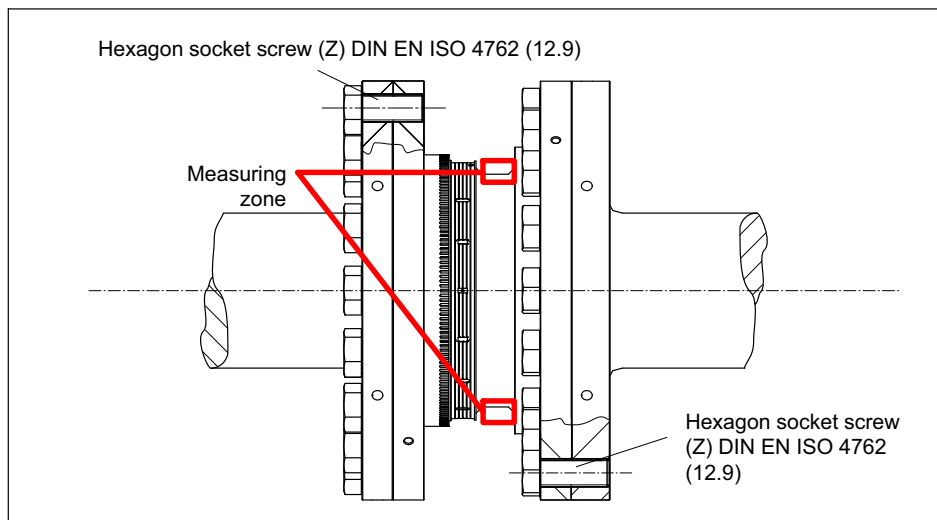

Fig. 5.5 Bolted rotor connection
Make sure during installation that you do not damage the measuring zone marked in Fig. 5.5 by using it to support tools or knocking tools against it when tightening screws, for example. This can damage the transducer and produce measurement errors, or even destroy the transducer.
2. For connection of the flange, (see Fig. 5.5) use DIN EN ISO 4762 property class 12.9 hexagon socket screws of a suitable length (dependent on the connection geometry, see Tab. 5.1 on Page 26).